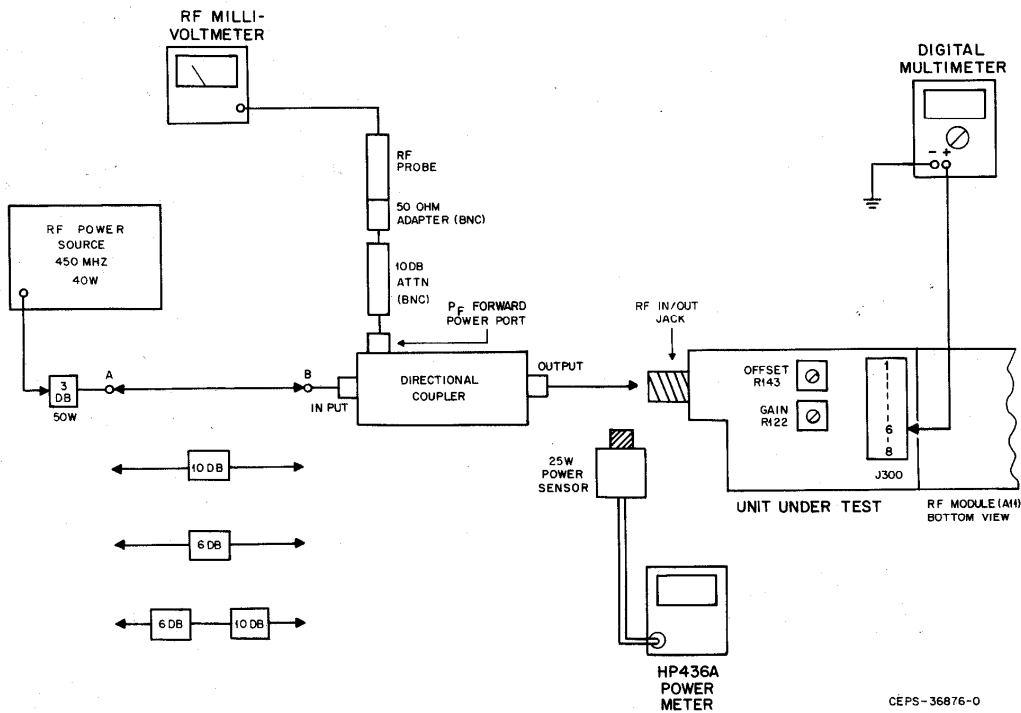

Figure 2. Wattmeter Calibration Test Set-up
Step 1. Connect test equipment and service monitor as shown in Figure 2. Leave the rf module installed in the service monitor.
Step 7. Connect both the 10 dB and 6 dB attenuators in series as shown in Figure 2 and record the power readings for data point P0.5.
Step 16. Connect the 10 dB and 6 dB attenuator in series as shown in Figure 2.
Step 19. Connect the 10 dB attenuator as shown in Figure 2 and measure the true power and equivalent voltage recorded in P2. Refine the R122 adjustment if necessary.